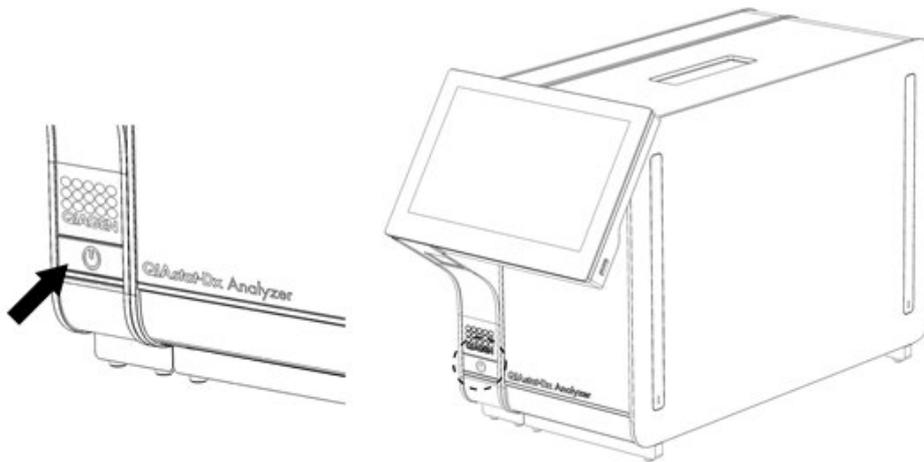

Figure 22 Pressing the ON/OFF button to start the instrument.
1. Press the ON/OFF button on the front of the QIAstat-Dx Analyzer 1.0 to start the unit (Figure 22).